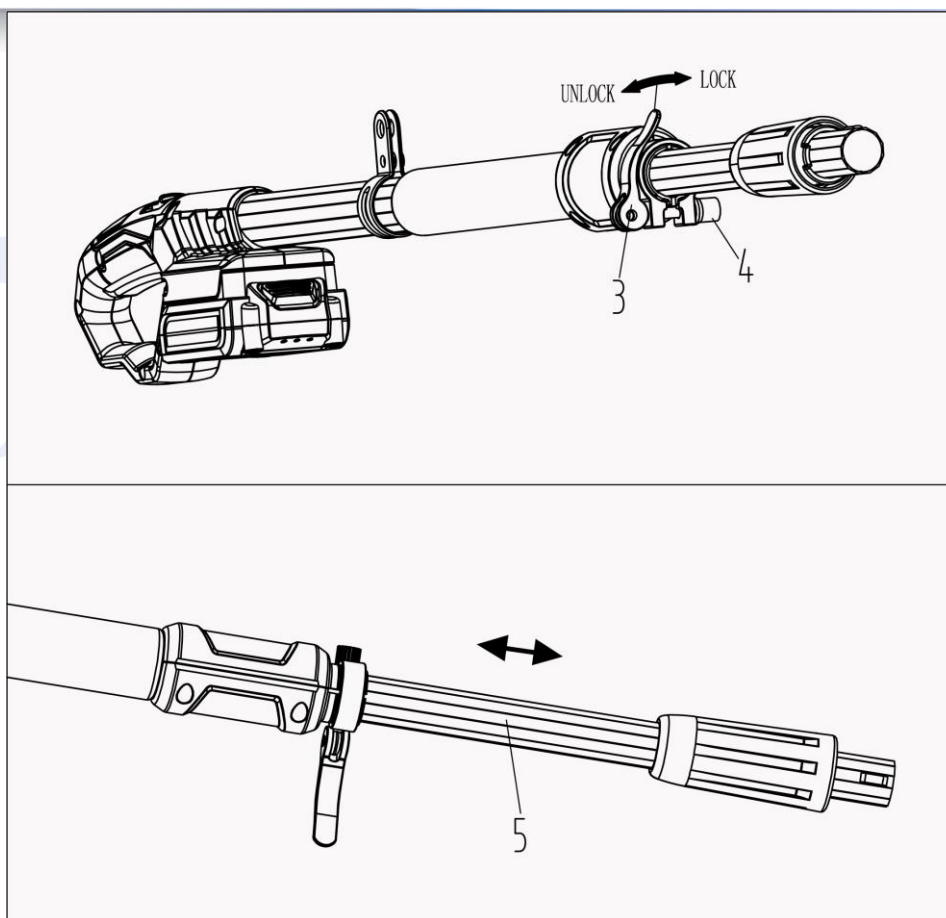

Fig.4
4. To adjust the height(See Fig.4)
1. Hold the tube (5) with one hand, and then loosen the trigger (3).
2. Set the handle to the correct length and tighten the trigger (3). (IMPORTANT: Before locking the trigger preloaded need to tighten the nut(4)) (See Fig.4)